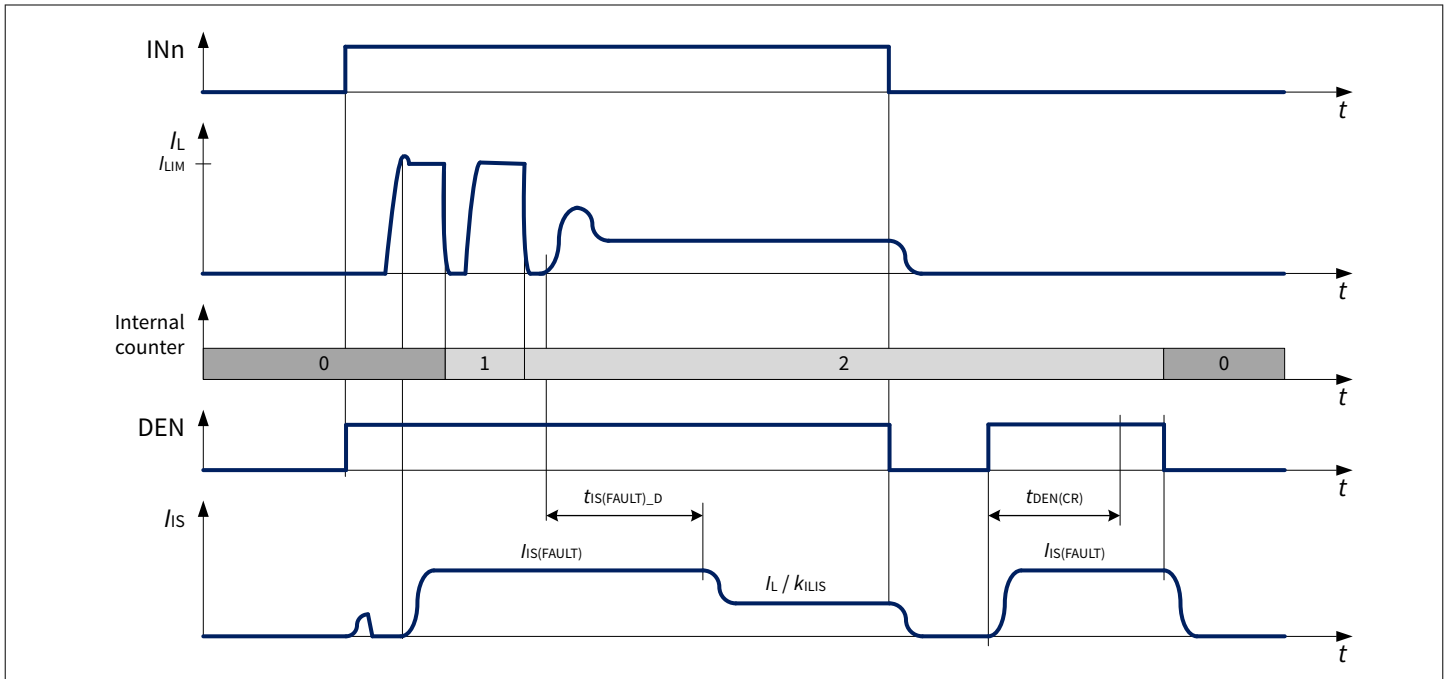

Figure 30 $I_{\text{IS}(\text{FAULT})}$ at load switching
- If the channel is ON and the number of restarts is less than “ $n_{\text{RESTART}(\text{CR}),\text{TYP}}$ ”, the current $I_{\text{IS}(\text{FAULT})}$ is provided for a time $t_{\text{IS}(\text{FAULT})_D}$ after the channel is allowed to restart, and thereafter $I_{\text{IS}} = I_L/k_{\text{ILIS}}$ (as shown in Figure 30). During a restart cycle the current $I_{\text{IS}(\text{FAULT})}$ is provided each time the channel diagnosis is checked.